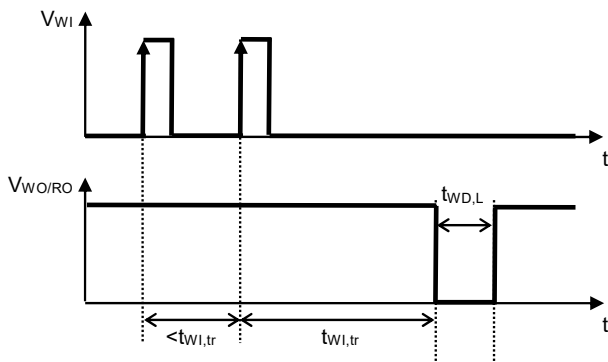

Figure 9 Watchdog Trigger Time
*1. The time when the WO / RO pin continues "L" after the watchdog timer detects a time-out or double-pulse (Refer to **Figure 9**). This value changes according to C_{DLY} .
*2. The time from when the watchdog timer initiates the detection of a trigger signal to when a time-out is detected and the WO / RO pin output changes to "L" (Refer to **Figure 9**). This value changes according to C_{DLY} .